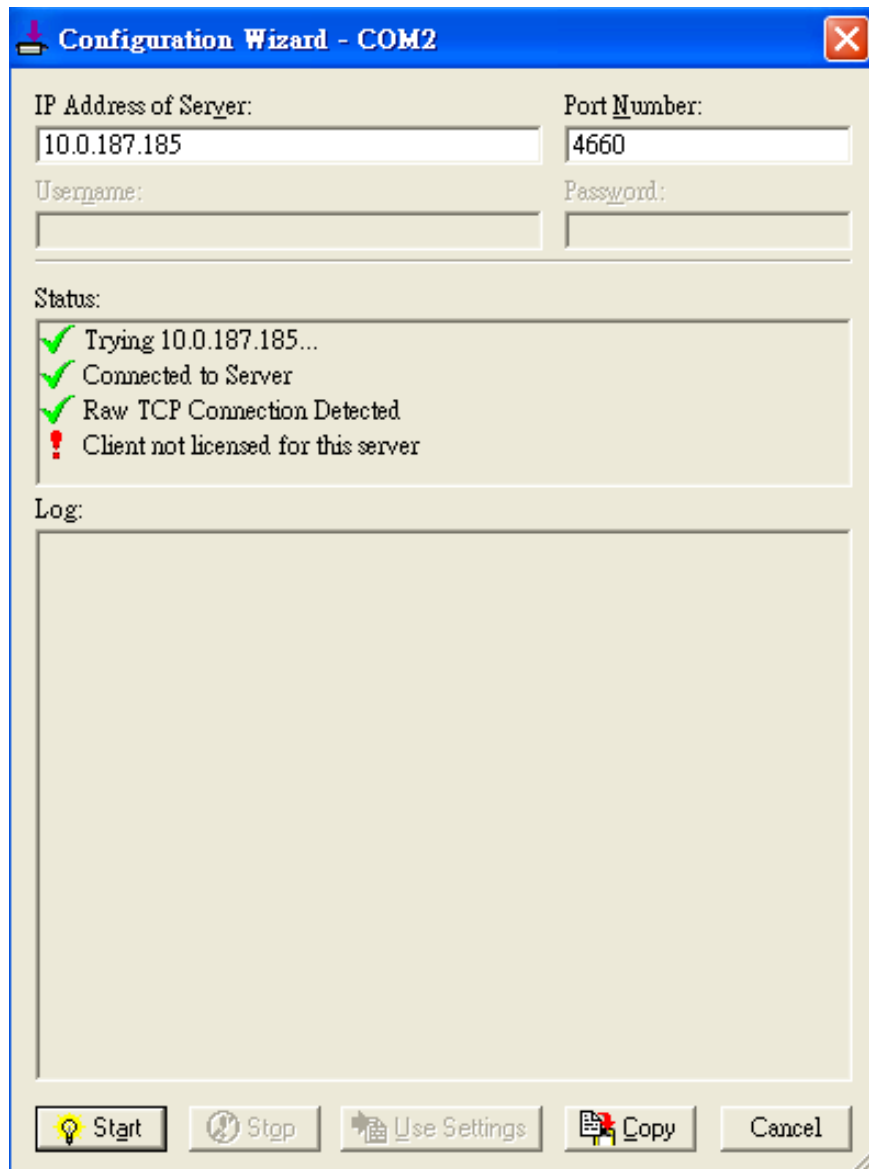

Figure 6.12 Error of Client not licensed for this server
- If the status reports with a check with a message **“Raw TCP Connection Detected”** and an exclamation mark with a message **“Client not licensed for this server”** as shown in Figure 6.12. Please enable the Virtual COM option in the serial Device server.